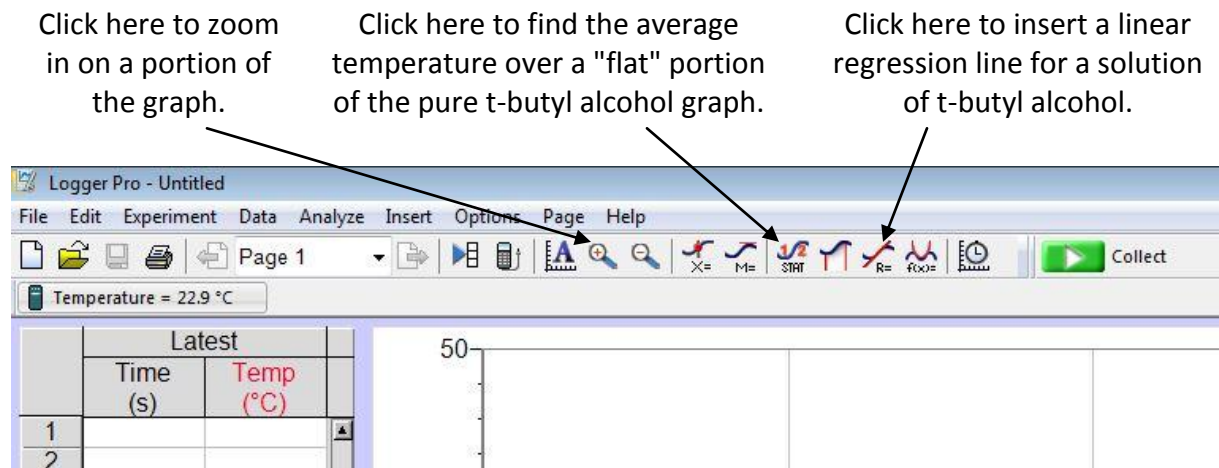

Figure 2. Graphical analysis using LoggerPro.
1. Using your data and LoggerPro, find the average of the temperatures over the plateau for each trial of pure t-butyl alcohol from Procedure 1. To do this, highlight the range that looks flat and then click on Stat button (see Figure 2). Choose the appropriate run and then record the average given in the text box that appears. You can click on the brackets marking the range of which you are taking the average and slide them forward or back if you want to make adjustments to the range. Record the temperature for each trial of pure t-butyl and calculate the average freezing point of t-butyl alcohol.
2. Using your data and LoggerPro, determine the freezing point of the t-butyl alcohol solutions. To do this, highlight a range that looks linear for Series 1 for one of your trials and click on the linear regression button (see Figure 2). Choose the appropriate run and a box will open up which will give the slope and y-intercept for the line. You can click on the brackets marking the range chose and slide them forward or back to adjust the line to make it follow the data better. Repeat this for Series 2 of the same trial to obtain two intersecting lines. To determine where they intersect, you can solve the equations of the two lines simultaneously or by substitution. Alternatively, you may highlight the area where they intersect on the graph and zoom in using the Zoom In button. Placing your cursor over the intersection of the two lines will give the appropriate x- and y-coordinates in the bottom left corner of the graph. Determine the freezing point for *each trial* of the t-butyl alcohol solution.